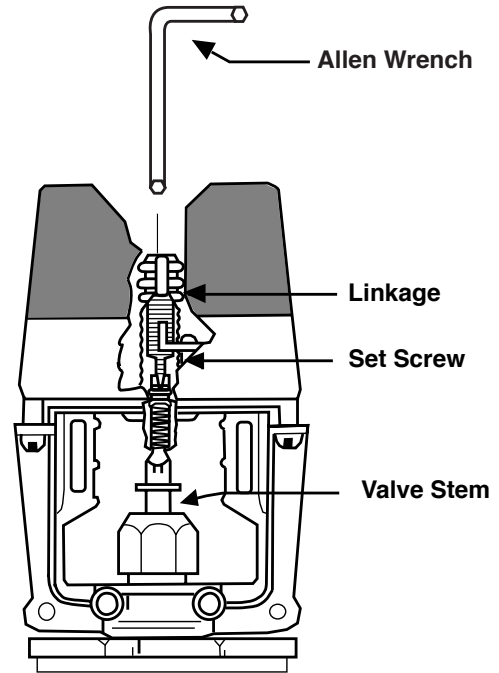

FIG. 6 — LOCKING MLx984A DRIVE SHAFT TO VALVE STEM
6. **Tighten the set screw to lock valve stem in place** (Fig. 6), using a 1/8" Allen wrench (included).